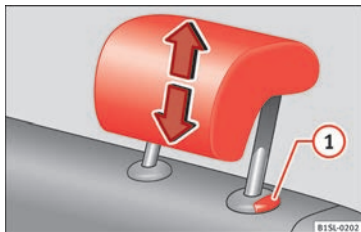

Fig. 119 Removing the rear head restraint
- Pull the head restraint out of the fitting without releasing the button » Fig. 119 .